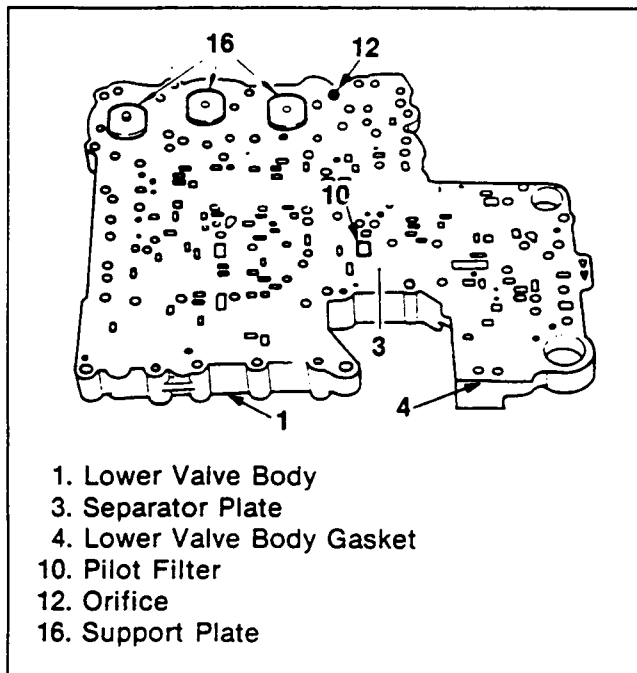

Figure 96. Lower Valve Body Installation
- Put the lower valve body gasket (new) and separator plate aligned with bolt holes, attach the support plates (3 pcs) and assemble them temporarily (figure 96).